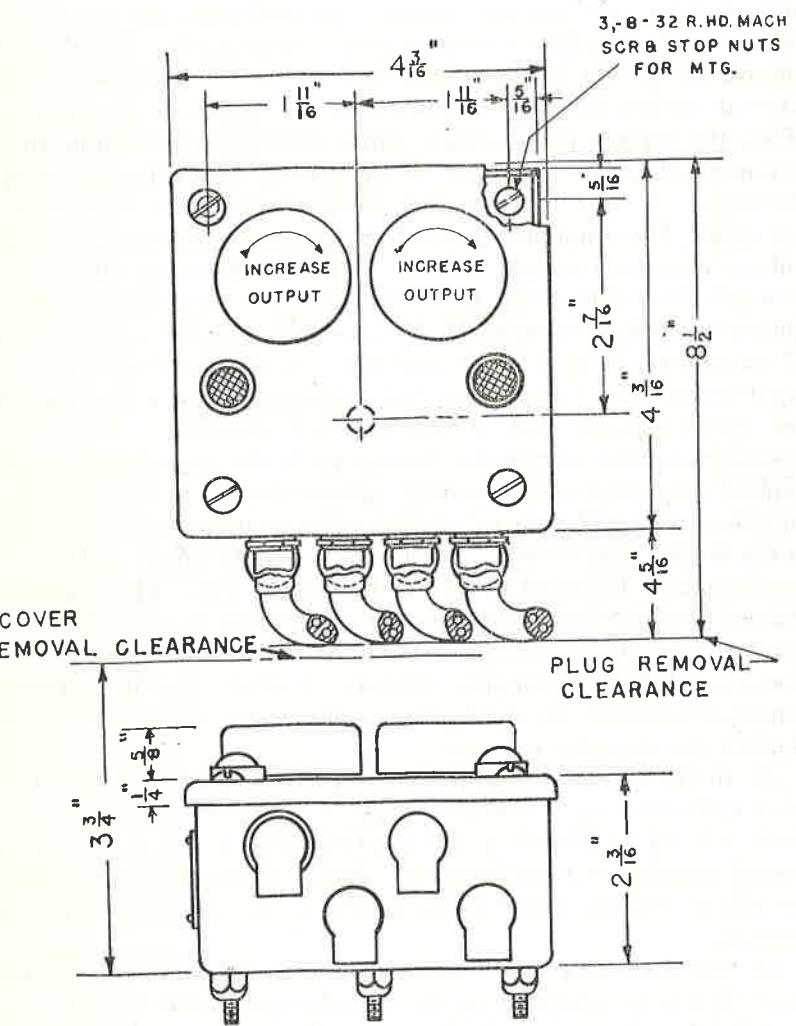

FIGURE 4.—Jack box BC-370.
*d. Jack box BC-370 (driver and bow gunner) (fig. 4).*—This unit consists of a sheet steel box approximately 4 inches long by 4 inches wide by 2 inches deep, with a cover. In it are mounted four jacks, two for headsets and two for microphones; two 10,000-ohm wire-wound potentiometers for volume control, one for the driver and one for the bow gunner; one green pilot indicating lamp; one red pilot